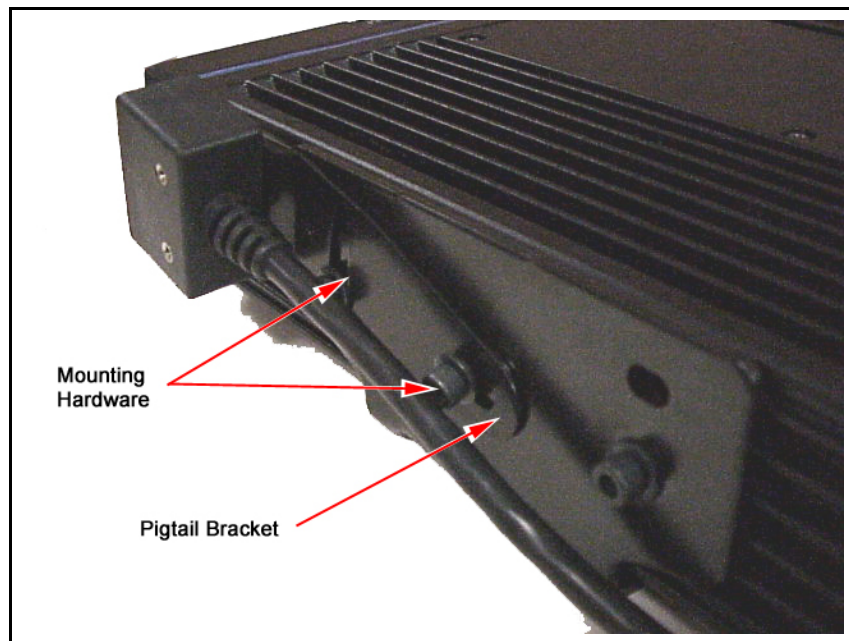

Figure 9-12: Pigtail Bracket Mounted on Radio
5. The other slot in the Pigtail Bracket will enable flexible positioning of the pigtail. Position the bracket, and insert the remaining M5 x 10mm hex head screw and lockwasher. Tighten both of the hex head screws to 7 N-m (61 in-lb) to maintain the desired Pigtail position. See Figure 9-12.